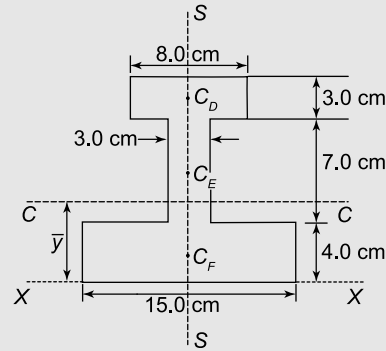

Figure 9.32
Problem 19. (a) Determine the second moment of area and the radius of gyration about axis XX for the I-section shown in Figure 9.32.
- (b) The centroid of the I-section will lie on the axis of symmetry, shown as *SS* in Figure 9.32. Using a tabular approach: